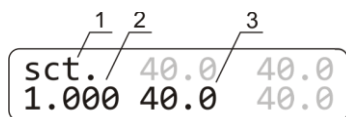

Figure 2. Display in calibration mode: 1. Calibration mode indicator; 2. Calibration coefficient; 3. Temperature with current coefficient
6.2. To change the calibration coefficient, hold the **TIME RUN/STOP** key pressed for more than 8 s to activate calibration mode. The calibration coefficient appears on the display (fig. 2).
Note. Values marked in grey on figures 2 and 3 are not used in calibration and are meant for service engineers.
6.3. **Restoring factory settings.** Set 1.000 value using the **▲** and **▼ T, °C** keys as shown on fig. 2/1 to restore the factory settings. Press the **RPM RUN/STOP** key once to save the changes and exit the calibration mode.
- 6.4.5. Hold the **TIME RUN/STOP** key pressed for more than 8 s to activate calibration mode (fig. 2).